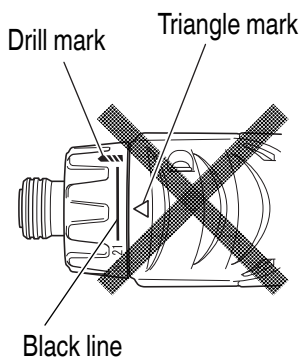

Fig. 6
- Do not use with the clutch dial numeral between “21” and the black line at the middle of the drill mark. Doing so may cause damage (See Fig. 6).